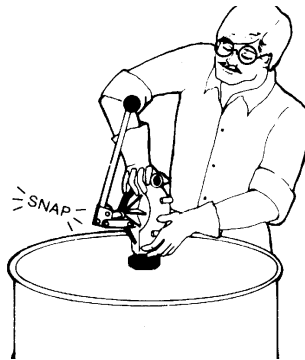

Figure 3
4. Install pump and tubing into bung adapter by firmly pushing straight down. Pump will snap into place (See Figure 3). Tighten the bung adapter clamp. Thread hose assembly (Ref. No. 17) and adapter or spout (Ref. No. 37) into pump housing.
6. Install the hose and suction tubes as required. Refer to Figure 3.